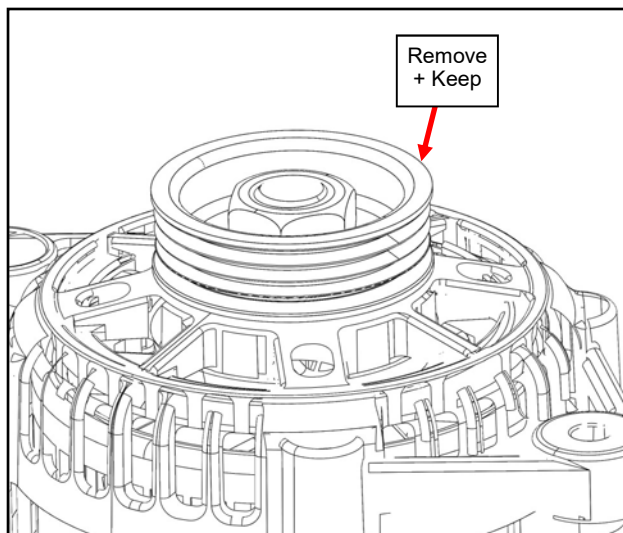

Fig. 2.15 (Remove Alternator Pulley and Hardware)
- 2.15 Remove factory pulley from alternator and set aside per fig. 2.15.